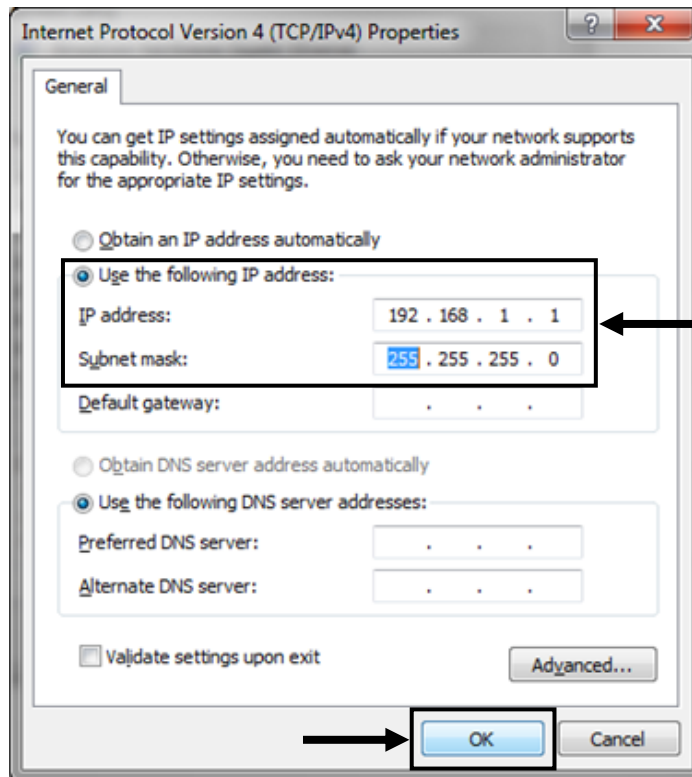

Fig 104. IP Address Fields
6. Complete the following on the “General” tab window (Fig 104):